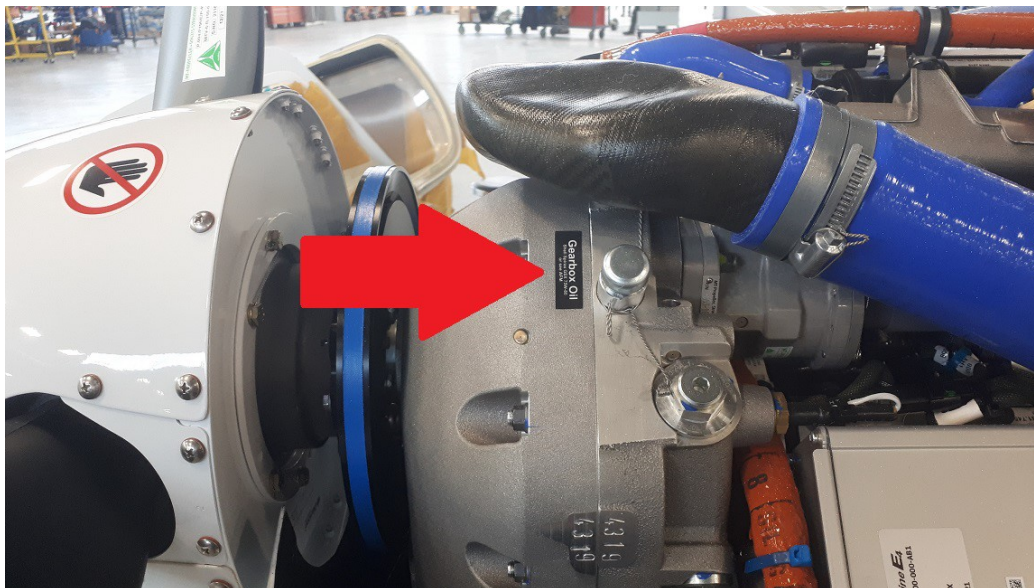

Figure 1. Location of the placard.
3. Inspect the placard located near the gearbox oil fill plug. Refer to Figure 1.